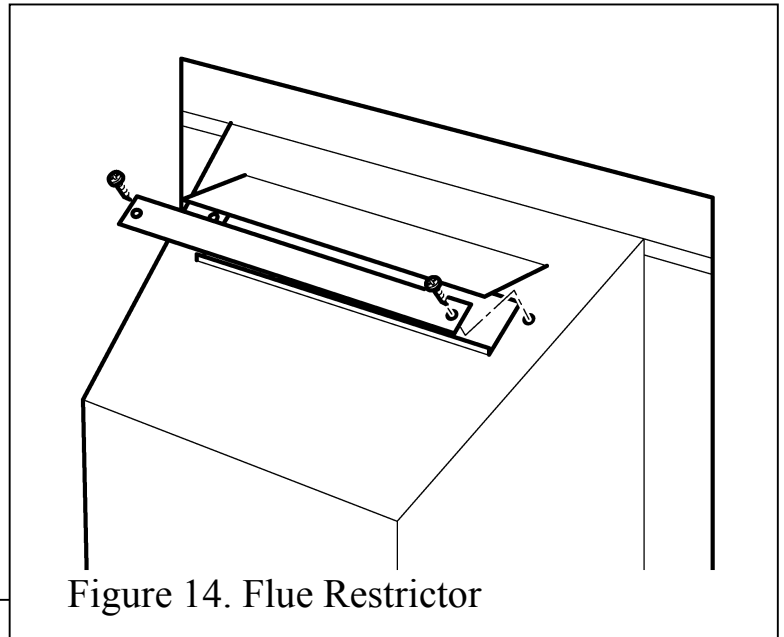

Figure 14. Flue Restrictor
**8.** This appliance is supplied with a flue restrictor for use where the flue draught is excessive. The restrictor must NOT be fitted where a precast flue or a flue liner is used. For all other installations the restrictor should be fitted. There may however, be certain exceptional circumstances where fitting the restrictor causes the fire to fail the spillage test. In such cases the restrictor will have to be removed. After removal conduct the spillage check again. The restrictor is packed loose with the appliance and is fixed with two screws. See figure 14.